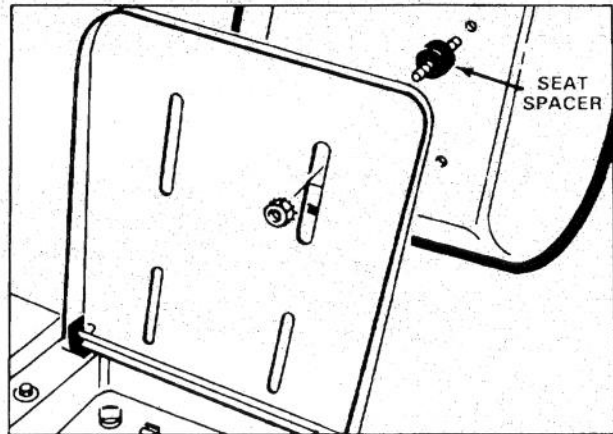

Figure 3
2. Thread (4) seat spacers into bottom of seat (Fig. 3).